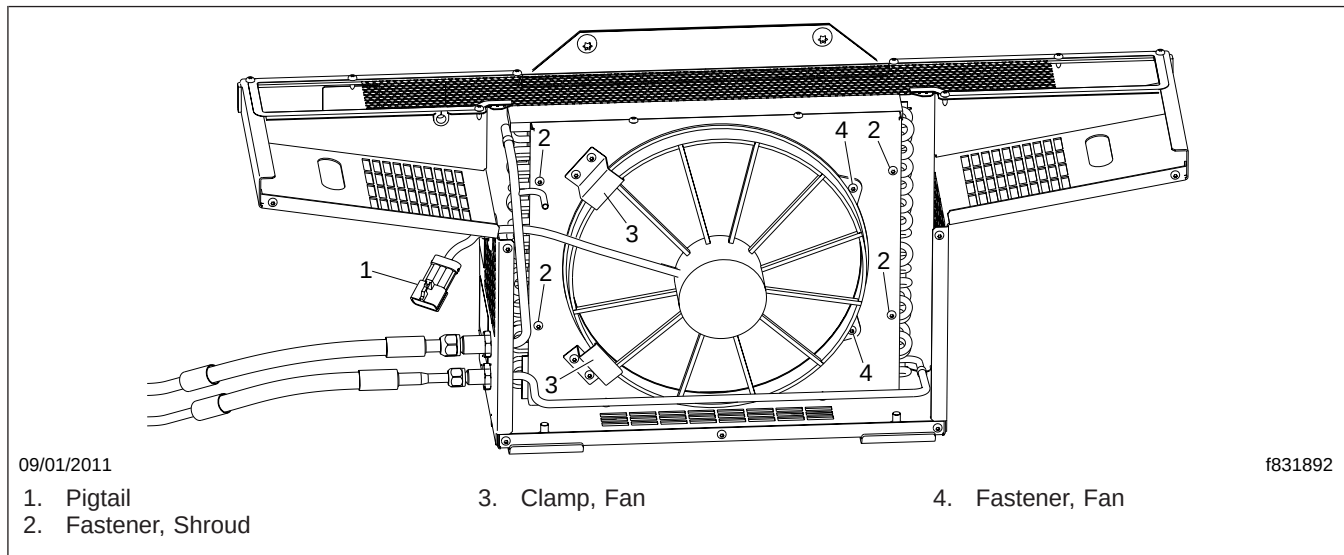

Fig. 2, Condenser Fan and Shroud Removal
12. Remove the condenser fan and shroud assembly. See Fig. 2.